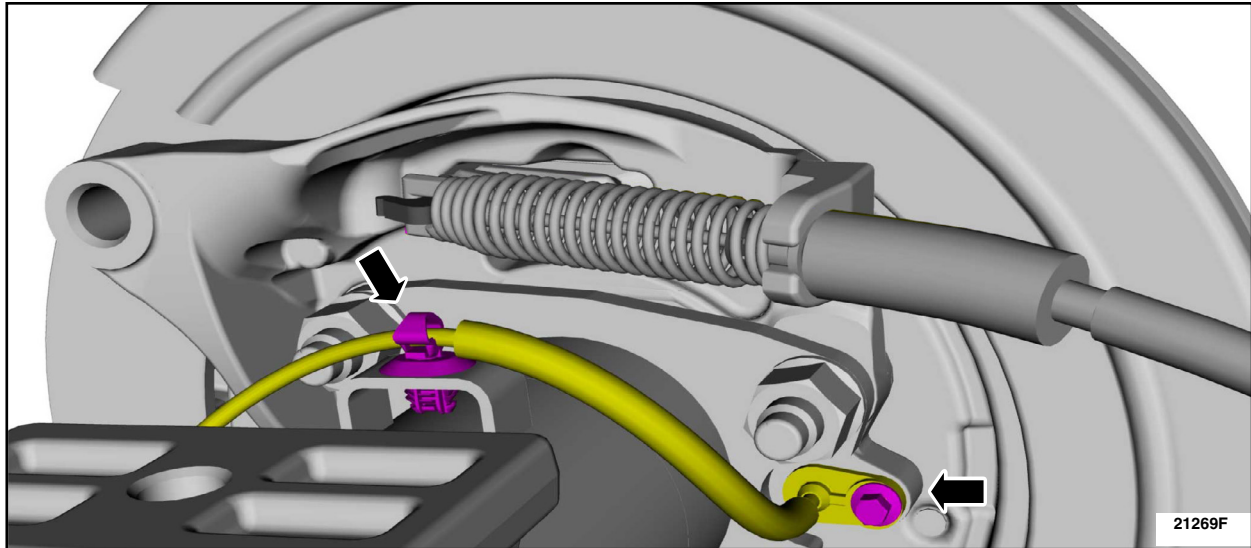

FIGURE 3
See Figure 3.
2. Disengage the ABS sensor wire harness pushpin retainers and position the ABS sensor wire harness aside. See Figure 3.